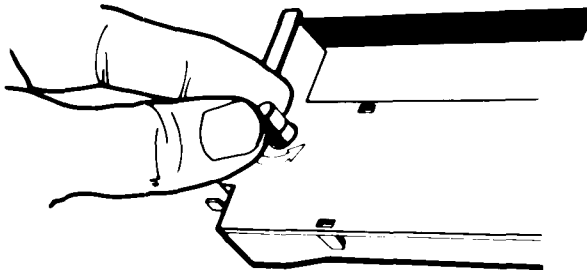

Figure 1-4. Tightening the ribbon
2. Before loading the cartridge into the printer, turn the small knob on top in the direction of the arrow to tighten the ribbon as shown in Figure 1-4.